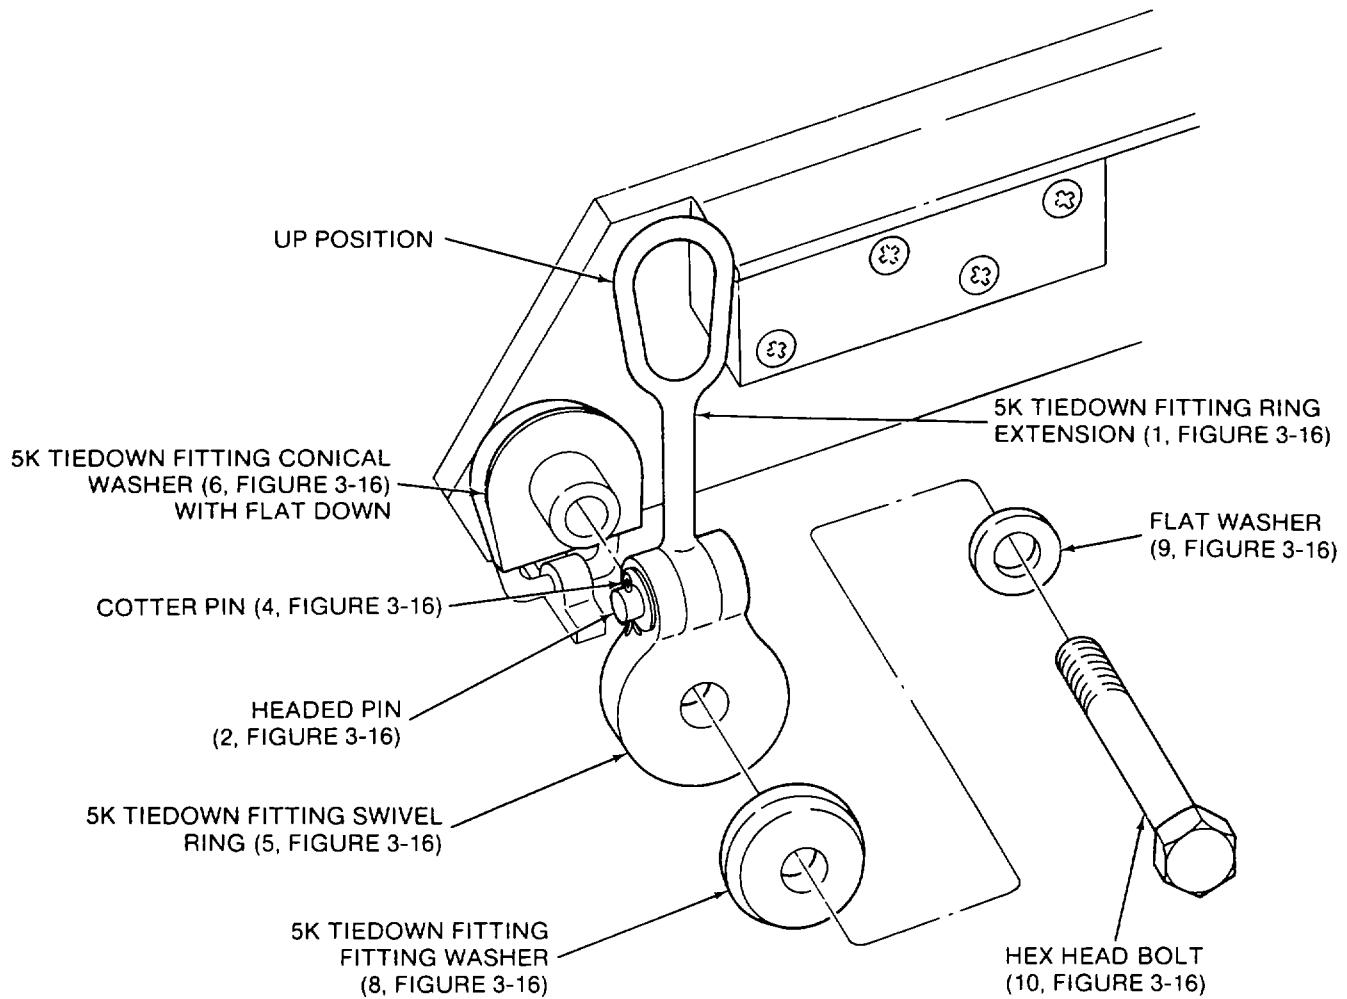

Figure 2-9. 5k Tiedown Fitting Assembly Installation
stations 373.469 to 487.000 (5 and 6). Use 5k tiedown fitting assemblies (21). There are thirteen symmetrical locations per side. Refer to Figure 2-9 for details.
Ensure conical washer (6, Figure 3-16) has flat down when installing 5k tiedown fitting assembly (21, Figure 3-2). (See Figure 2-9 for correct position).